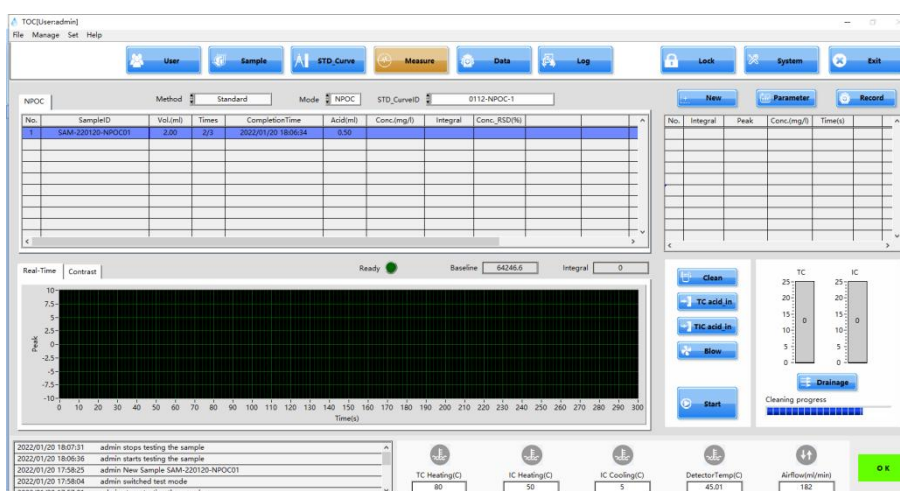

Fig 4.69
Step 4: Click  to add the registered samples to the list to be tested (Fig. 4.69).